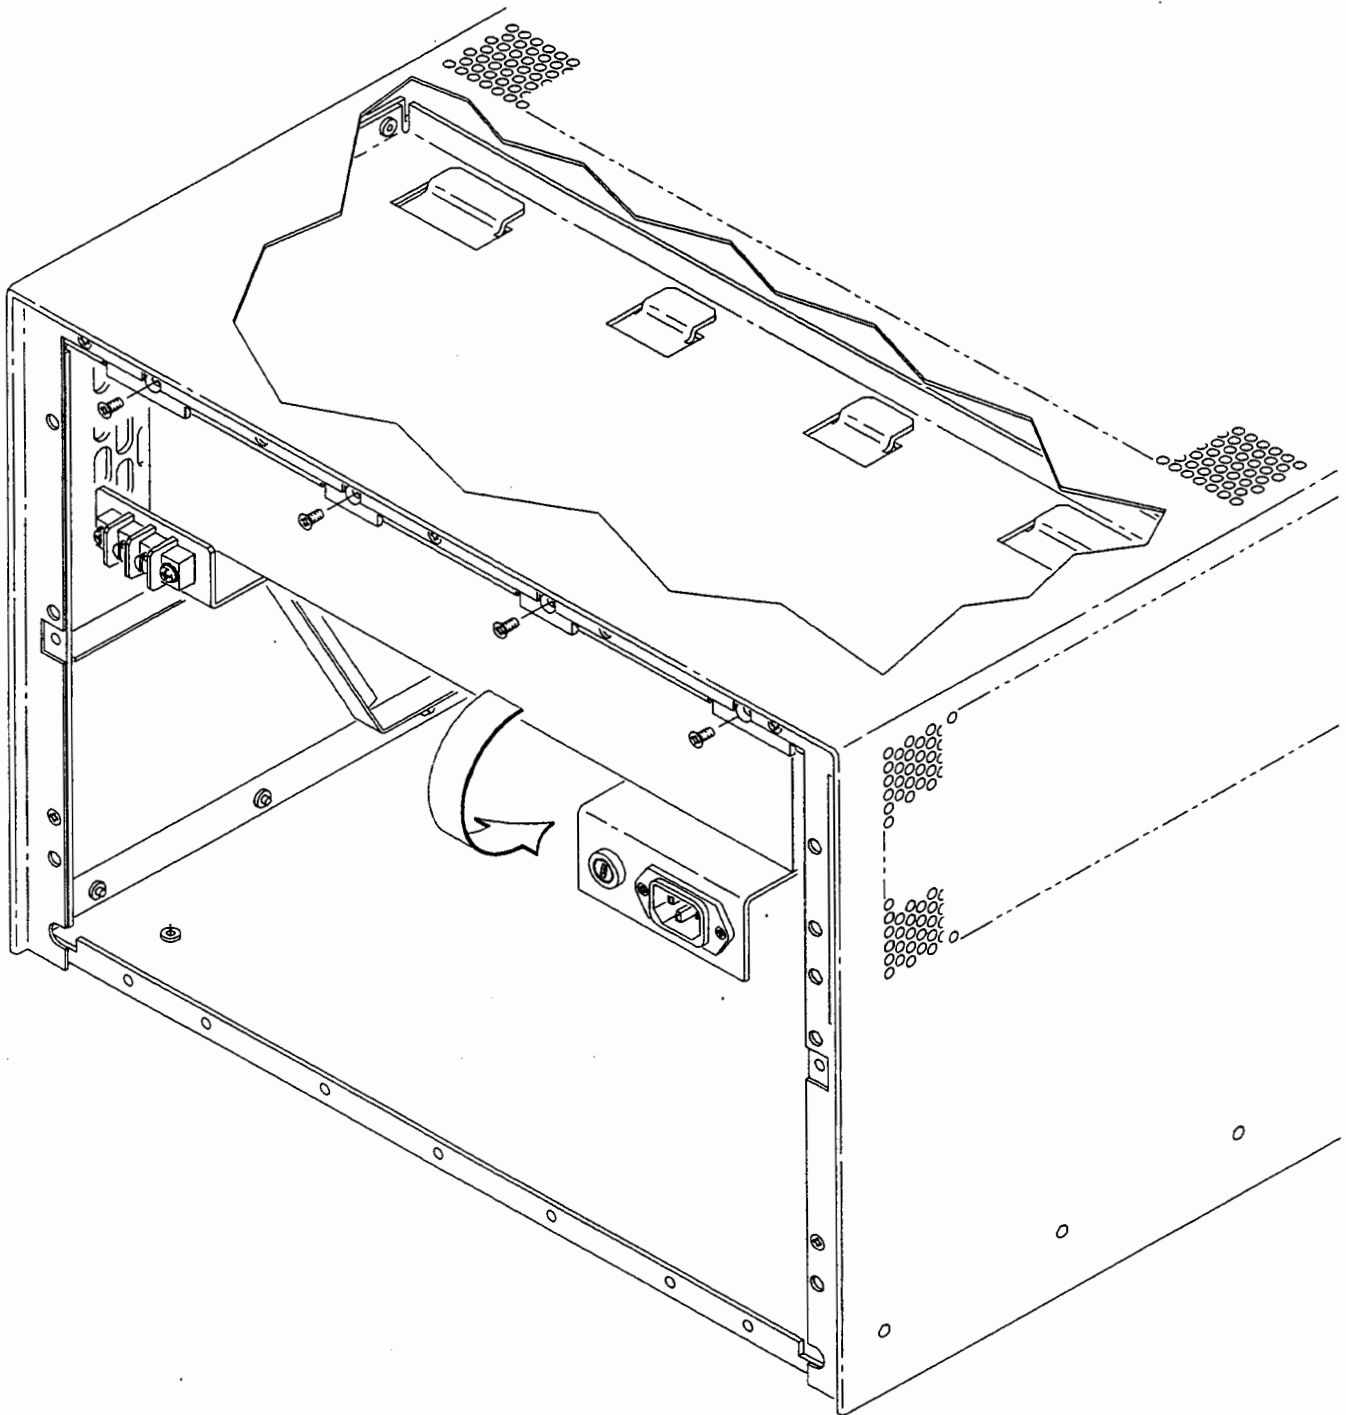

Figure 2-5 Removing the Power Supply
2. As shown in Figure 2-5, while holding the weight of the power supply with one hand, remove the 4 screws securing the power supply--**the power supply will drop down when the last screw is removed.**